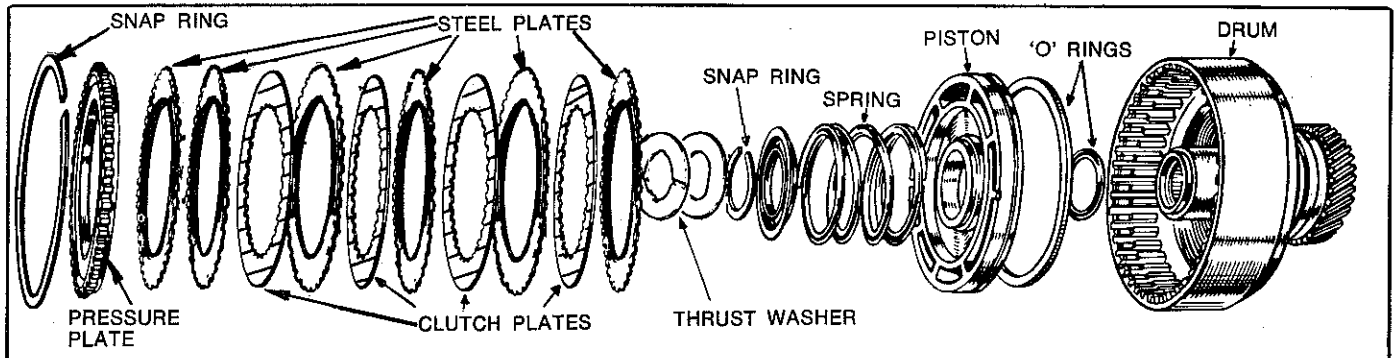

Fig. 38—Rear clutch assembly (disassembled view)
Disassembling Rear Clutch (Refer Fig. 38)
NOTE: Three of the "outer" plates are dished (identified by checking plate with a straight edge), the dished or concave face should be installed facing the front of the transmission. Assemble the clutch in the following order: dished, fibre, flat, fibre, dished, fibre, flat, fibre, dished, flat, pressure plate and snap-ring—refer Fig. 38.
(3) Remove piston, using Tool E1386, to compress the spring (Refer Fig. 38).
(4) Remove spring seat retaining snap ring (accessible with ring positioned over flat on boss).
(5) Remove spring seat, spring, piston assembly, by cautiously blowing out with air pressure.
(6) Remove rubber seal ring from piston, also 'O' rings. Remove the 3 seal rings from clutch drum grooves (Where necessary).
(7) Examine sun gear intermediate shaft and seal rings. The needle bearing assembly is serviced separately. Reassemble by reversing the foregoing procedures after cleaning and inspecting. Use special Tool E1387 to install the piston assembly into the cylinder.